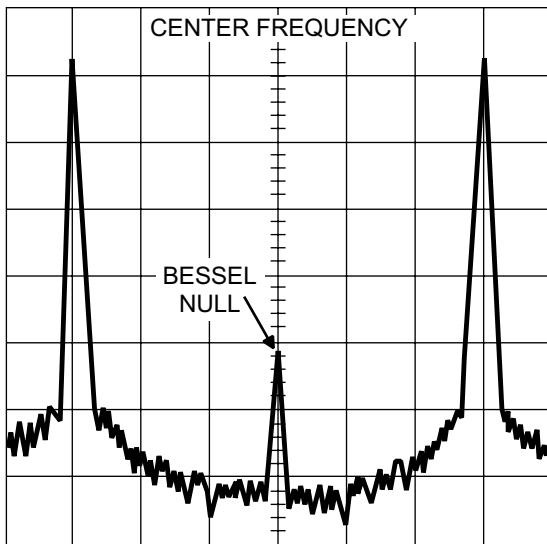

Figure 3-15. Typical Spectrum Analyzer Display of Bessel Null on Φ M Waveform
4. On the 683XXC, use the cursor control key to place the cursor under the last 0 in the deviation setting (2.40 rad). While observing the first Bessel null (Figure 3-15), increase/decrease the Φ M deviation with the cursor control key to reduce the carrier as low as possible.